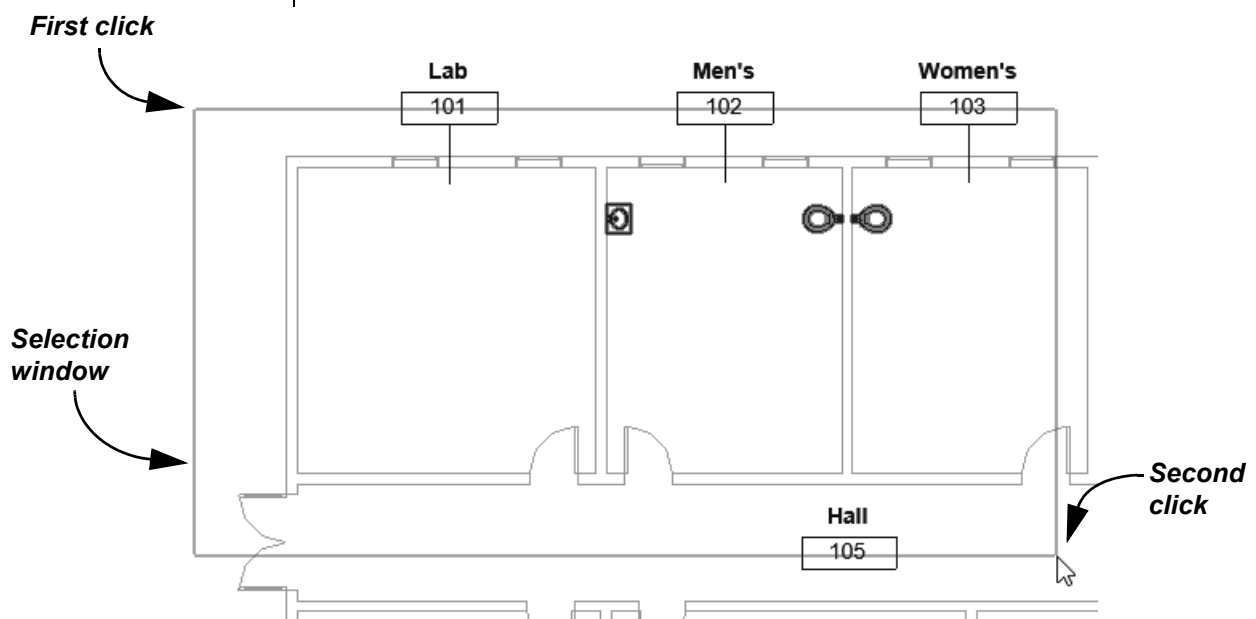

Figure 2–60
3. Draw a selection window from left to right around some of the elements so only those completely inside the window are selected. The elements that are selected will highlight in blue, as shown in Figure 2–60.